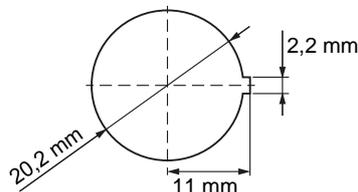

Figure 24: Hole for the control unit
- ▶ Drill a hole $\varnothing = 20.2$ mm in the dashboard for the control unit (see Figure 24).